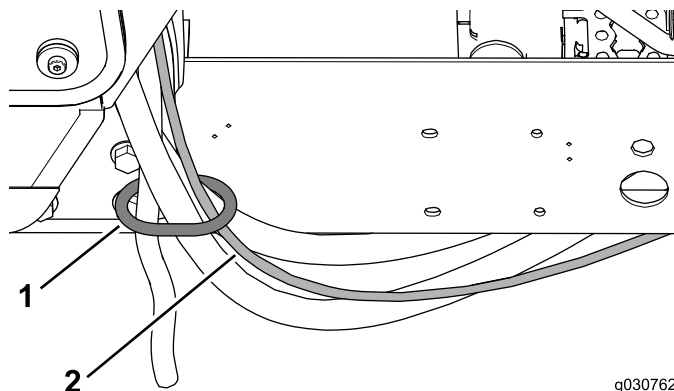

**Figure 40**
6. Slide the hose-clamp over the return hose and then insert the hose over the fitting (3/8 NPT x 0.625 barb) as shown in Figure 40.